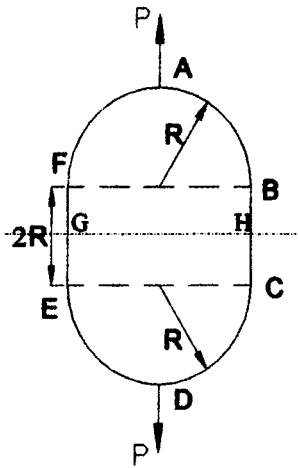

Fig. Q.9
Q.9) The link shown consists of two semi-circles and two straight portions of constant section throughout. It is subjected to the action of two equal and opposite axial forces 'P' applied as shown in Fig. Q.9. Assuming that the c/s dimensions of the link are small in comparison to 'R', determine the increase in the dimension AD and the shortening of GH. $EI=\text{constant}$. (11)